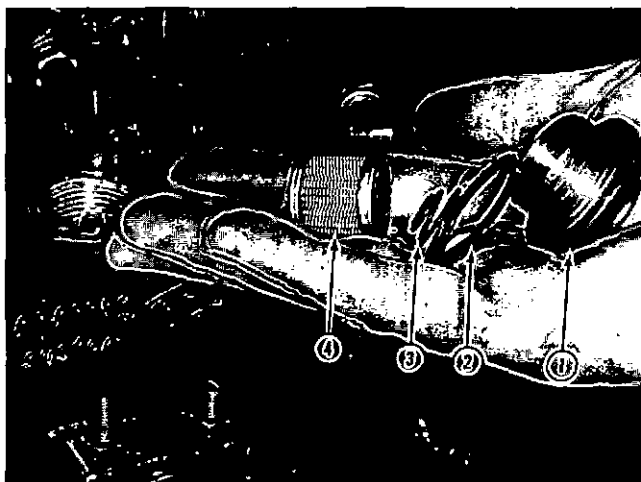

Fig. 5-30, N11950. Fuel pump filter assembly — PT (type G) fuel pump
1. Loosen and remove cap (1, Fig. 5-30) and "O" ring (2) spring (3). Lift out filter screen assembly (4).